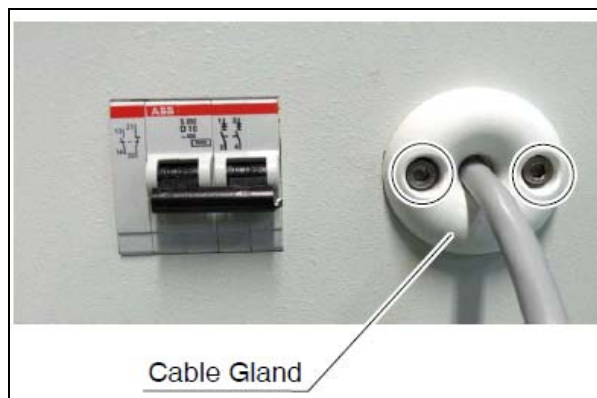

Figure 10
- (8) Dismount the cable gland from the plate. See figure 10.